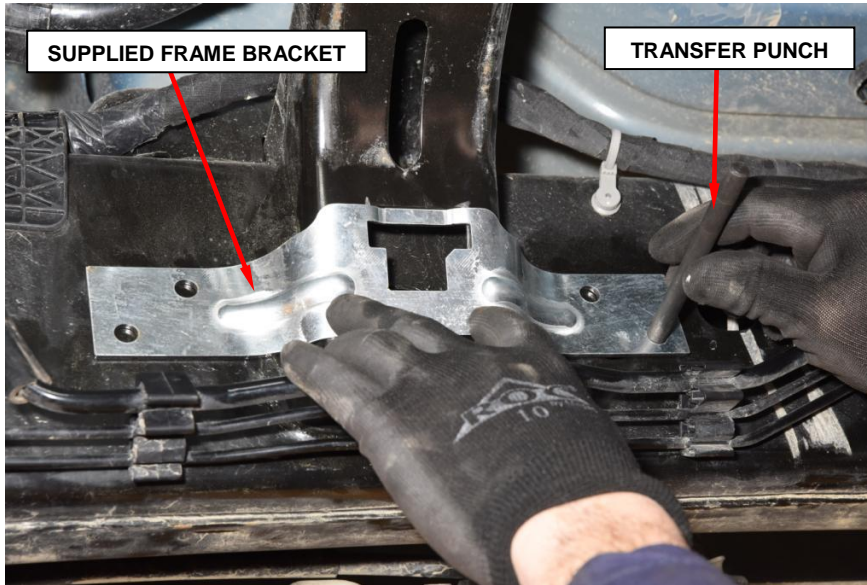

Figure 17 – Frame Bracket
42. Align the supplied frame bracket with the cutout opening and center punch the right lower hole to the frame using a 25/64” (9.92 mm) transfer punch (Figure 17).